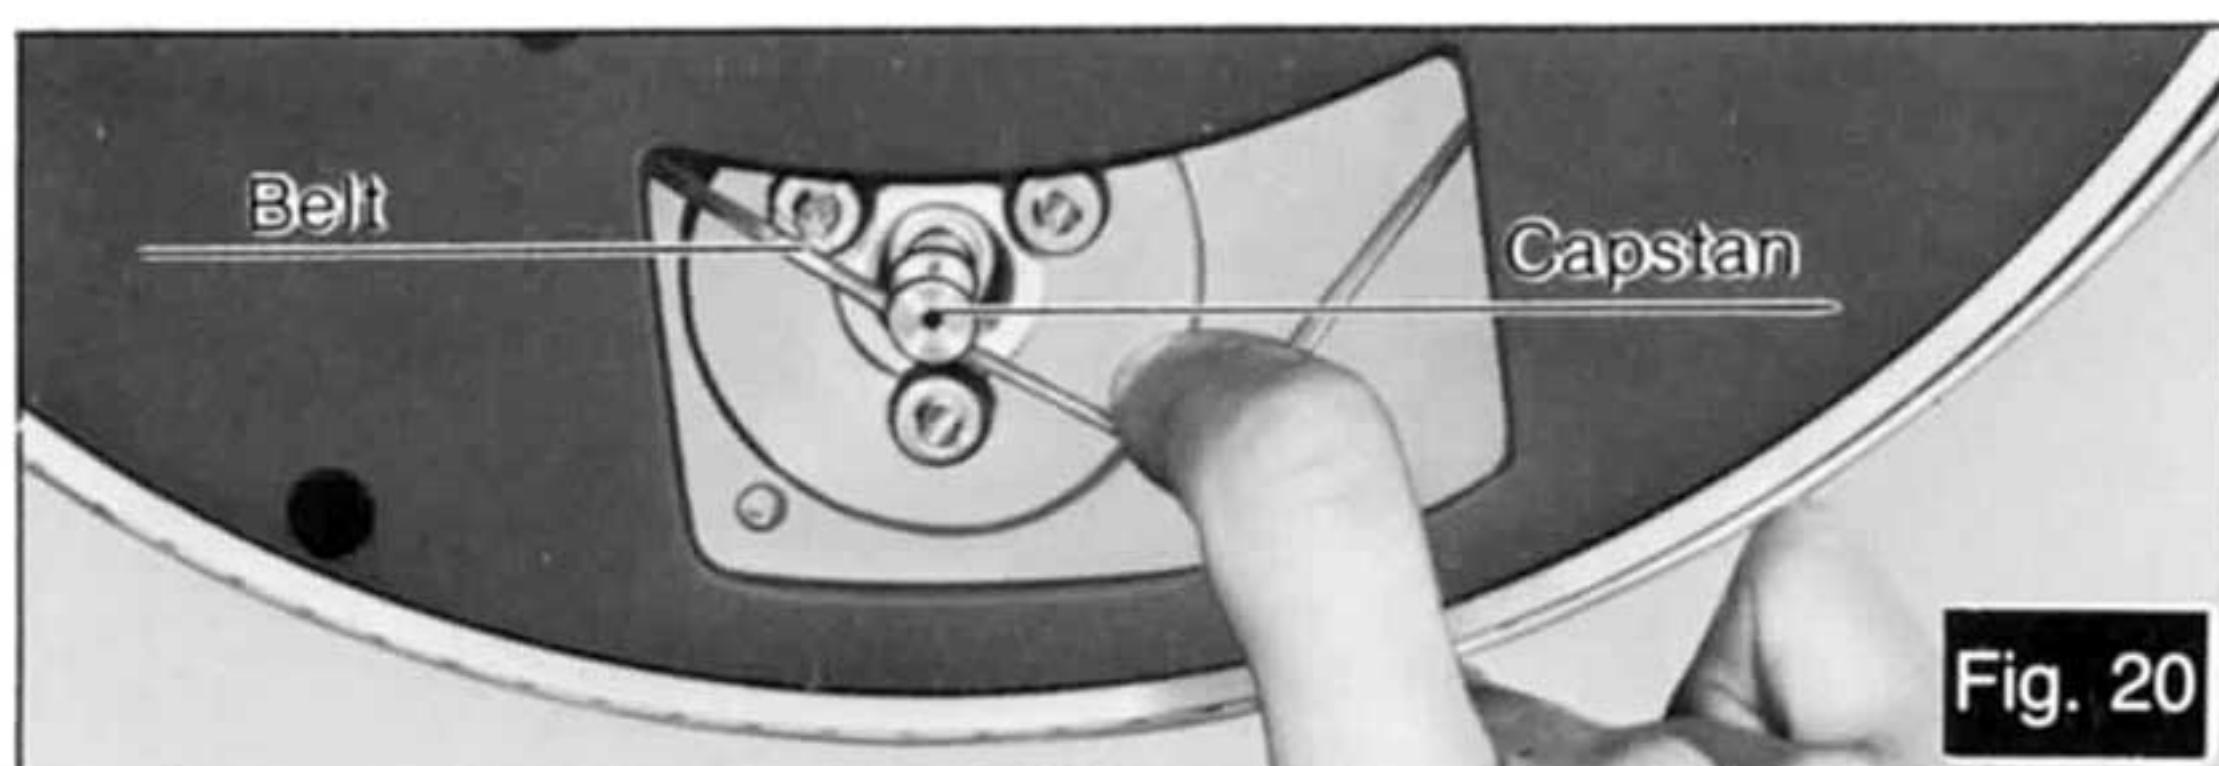

Fig. 20
① How to remove and install the turntable platter (See Fig. 20.)